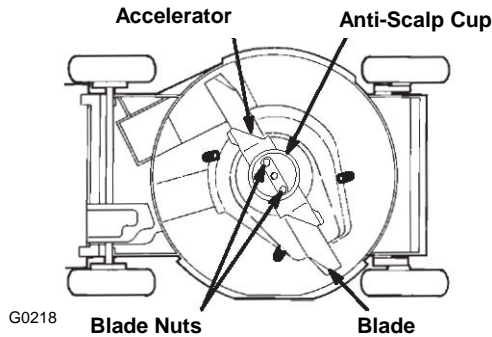

Figure 18
4. Tip the lawn mower onto its **right** side (Fig. 18 and 19)